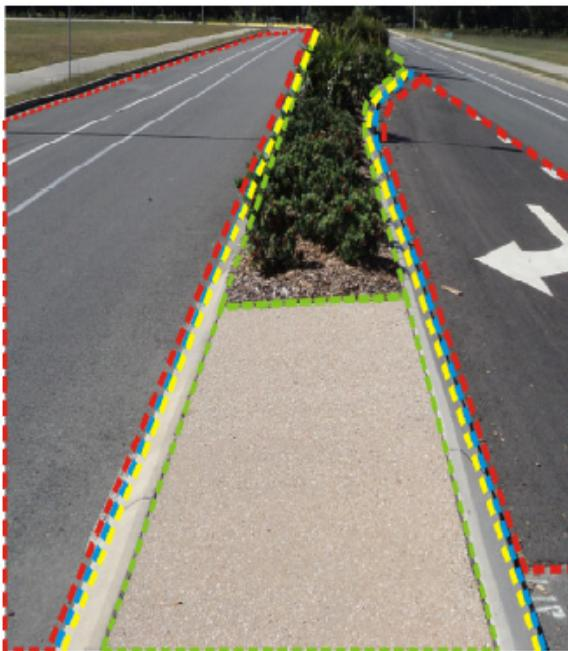

Figure 1
- Roadways, including seals and pavement to be captured from “Nominal kerb line to Nominal kerb line” as a closed polyline as per “red-dashed” example pictured in figures 1 & 2 below. Note: Separate polygons will be required at changes in pavement and/or surfacing.
- Kerb line is captured on the nominal kerb line (invert of kerb and channel, face of kerb only) as shown by “yellow-dashed” line shown in figures 1 and 2 shown below.
- Sub-soil drains, where installed, are to be captured at kerb/seal junction as per the “blue-dashed” examples shown in figures 1 and 2.
- Road islands are captured as closed polyline/object from back of kerb. Individual sub-sections of traffic islands to be identified by different material types (i.e. paving, concrete, grassed) as per “green-dashed” line in figure 1.